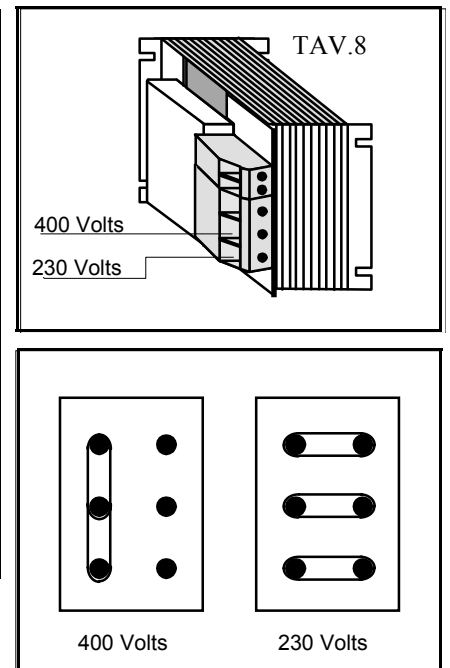

FIG.9
- Remove the nuts from the block of the contact bars located in a horizontal position (FIGURE 9).